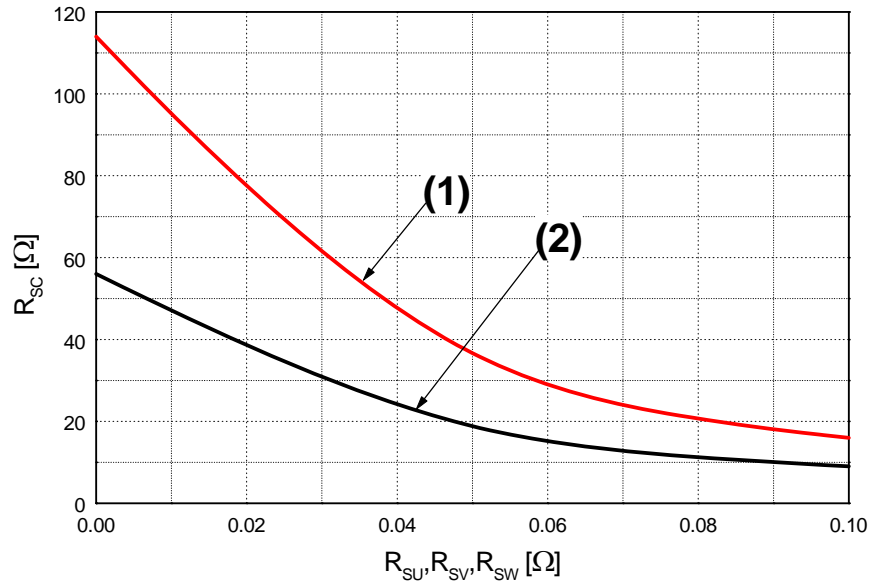

Figure 6. R_{sc} Variation by Change of Shunt Resistors (R_{SU} , R_{SV} , R_{SW}) for Short-Circuit Protection
- Short-circuit protection is functioning only at the low-sides. It would be recommended that the value of the external sensing resistor (R_{SC}) should be selected around 56 Ω in order to make the SC trip-level of about 22.5A at the shunt resistors (R_{SU}, R_{SV}, R_{SW}) of 0 Ω. For the detailed information about the relationship between the external sensing resistor (R_{SC}) and the shunt resistors (R_{SU}, R_{SV}, R_{SW}), please see Figure 6.